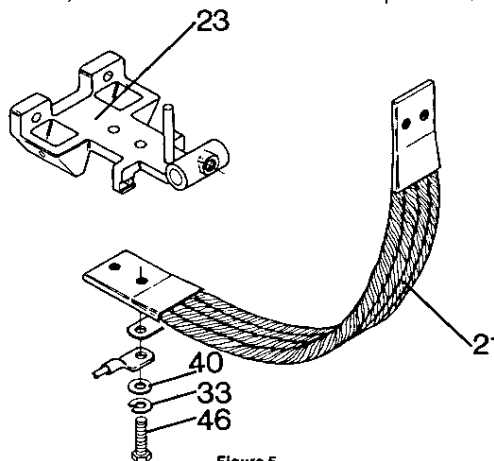

Figure 5
1. With all power removed, disconnect the arc chute wires by removing the hex head cap screws (46), lockwashers (33), washers (40), arc chute wires and shunt (21).
3. Remove the arc chute by removing hex head nut (12), lockwasher (8), washer (19), hex head cap screw (17) and the arc chute.
6. Reconnect arc chute wires and shunt (Fig. 5) using the washers, lockwashers and hex head cap screws.
1. With all power removed, disconnect the bottom end of the shunt (21) by removing hex head cap screws, lockwashers, washers, arc chute wires and the shunt.
2. Disconnect the top end of the shunt (21) by removing hex head nuts, lockwashers, washers and the shunt.
3. Check that auxiliary arm pin (27) is centered and set screws (18) are tight.
5. Connect the bottom end of the shunt by replacing the shunt, arc chute wires, washers, lockwashers and hex head cap screws (Fig. 5).